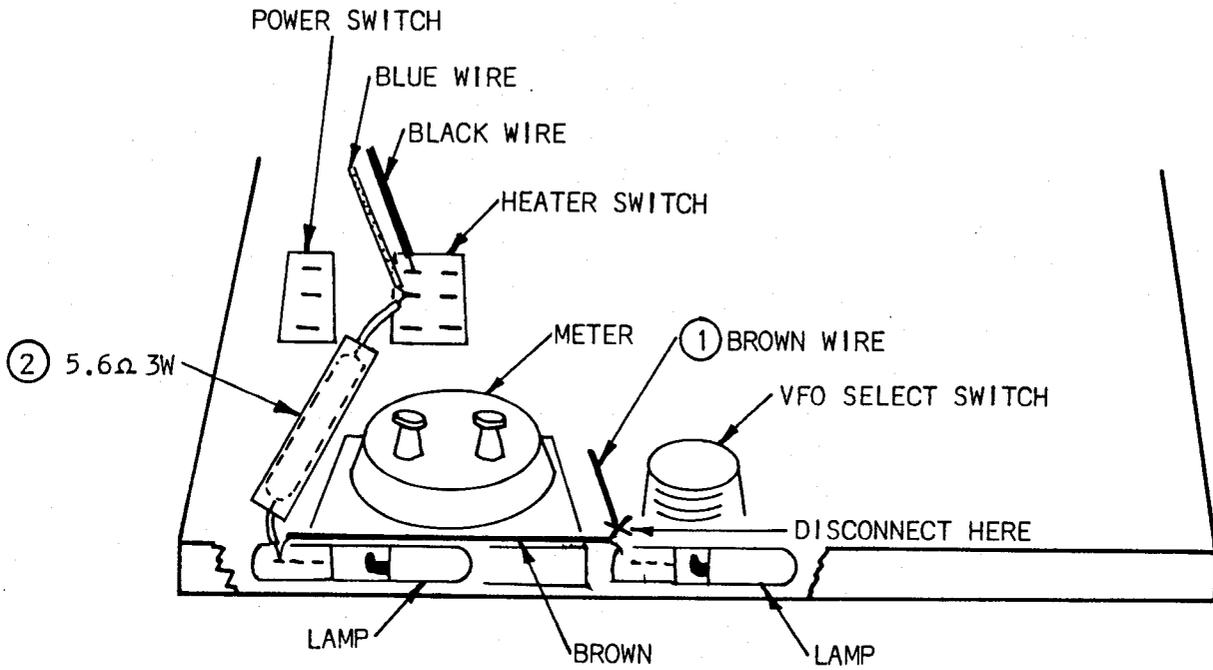

FIGURE 6-22
2. Solder a 5.6 ohm, 3 watt resistor between the left pilot light socket and the heater switch. (See Fig. 6-22).